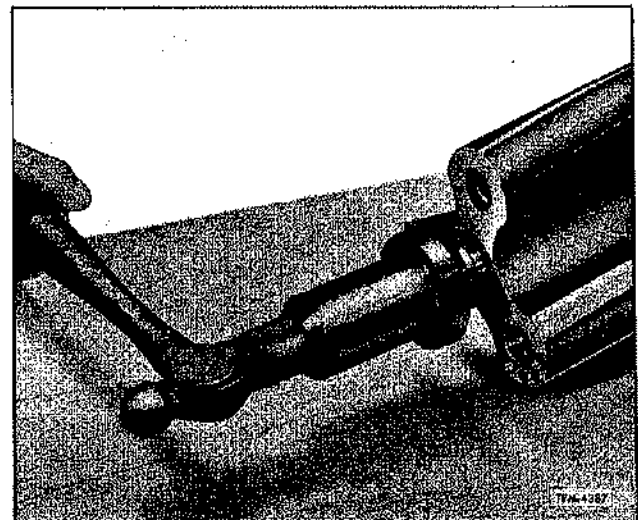

Figure 14—Installing Seal Ring Carrier
1. Position seal ring carrier over end of rotor shaft, then use tool J-6270-4 and hammer in manner illustrated in figure 14, to drive carrier solidly into place.